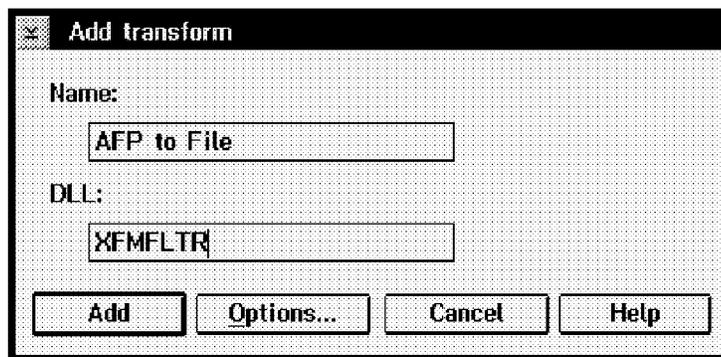

Figure 185. Add Transform Window
3. The Add transform window shown in Figure 185 will open. Fill in the name of this transform and the DLL. In this case, we'll use XFMFLTR. Select **Options....**